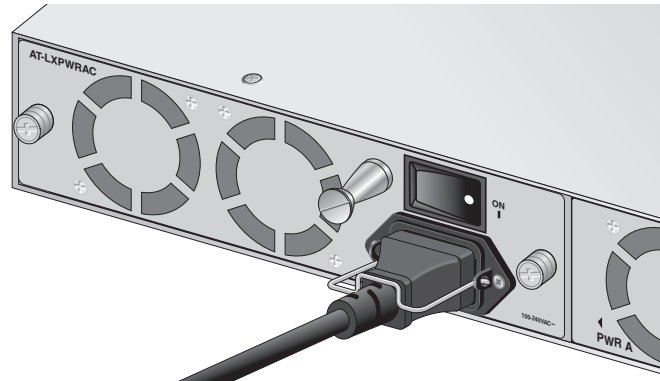

Figure 39. On/Off Switch in On Position
6. Move the On/Off power switch to the On position, as shown in Figure 39.